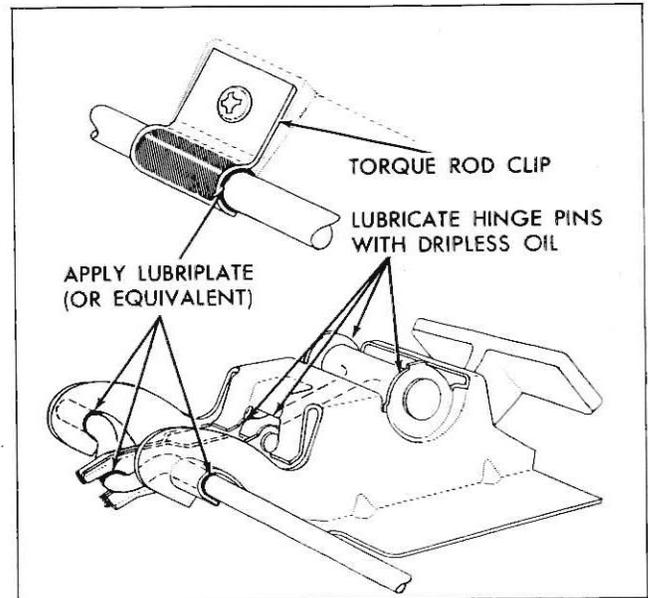

Fig. 5—Torque Rod & Hinge Lubrication
1. Lubricate both right and left hinge pivot pins with a dripless oil (see Fig. 5).
NOTE: When torque rods are re-installed, lubricate torque rod frictional surfaces on both right and left hinges and frictional surfaces of both torque rod clips with Lubriplate or equivalent (see Fig. 5).